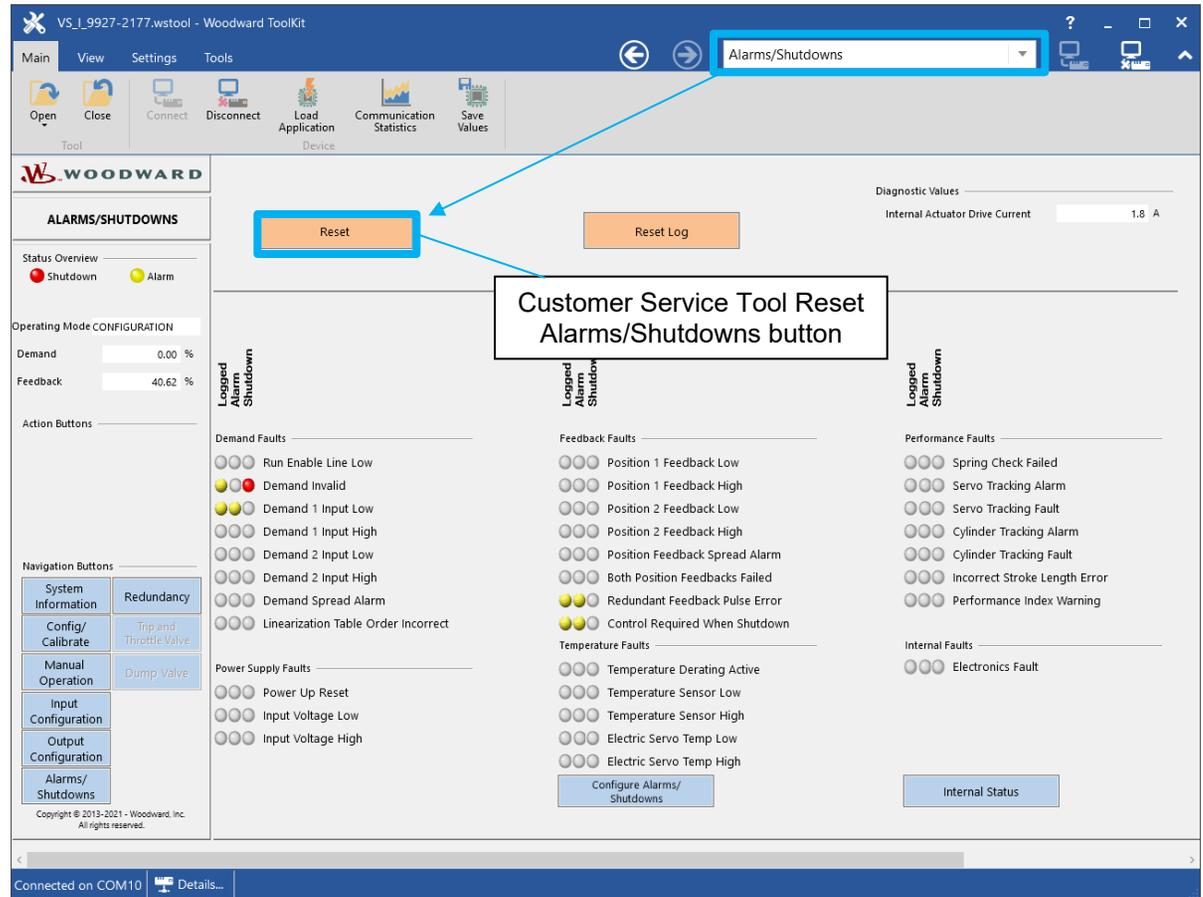

Figure 2-66. Alarms/Shutdowns Page
41. Reset alarms by using the Reset button on Alarms/Shutdowns screen (Figure 2-66).